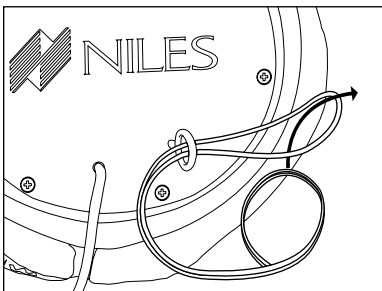

Figure 9 Security Cable Looping Through
- Feed the opposite end of the nylon security cable through the exposed portion of the cable that was just fed through the security eyelet, as shown in **Figure 9 and 10**.